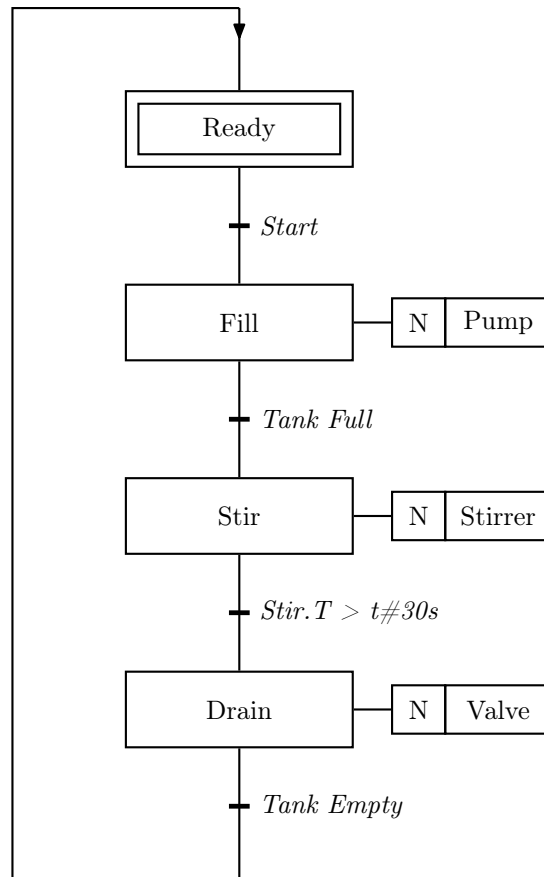

Figure 1: Example of SFC
- The other blocks (with single side edges) are steps. In Figure 1, these blocks are given identifiers such as Stir and Drain. These often represent a particular state or phase in the process that is to be controlled.
In the example in Figure 1, there is only one possible route in the sequence, but a SFC can contain many alternative branches. Let us therefore expand the example by adding the following: If the pump has been running for more than 1 minute without the *Tank full* giving a high signal, the sequence should jump to Drain. See Figure 3 This addition constitutes an alternative sequence, where the sequences first split up (a so-called OR divergence), to rejoin again farther down (OR convergence). After the divergence (after the Fill step), there follows one transition for each alternative branch. It is extremely important that these transitions be mutually exclusive. This means that the conditions in these transitions must be such that only one of the transitions can be satisfied at any time, thus the word OR. If such transitions are not mutually exclusive, two or more alternative branches can be activated simultaneously and that is regarded as an error. In Figure 3, the condition AND NOT Fill.T>t#1m prevents the two branches from being activated simultaneously. The alternative branching in this example does not contain any step. This is because the purpose of this particular alternative branch is just to jump over a step. Similarly, alternative branching can be used to create a loop that performs one or several steps a desired number of times. Note this alternative way of jumping to another step by using the jump symbol (see Figure 2), where you enter the name of the step to which you want to jump, in this case, Ready.